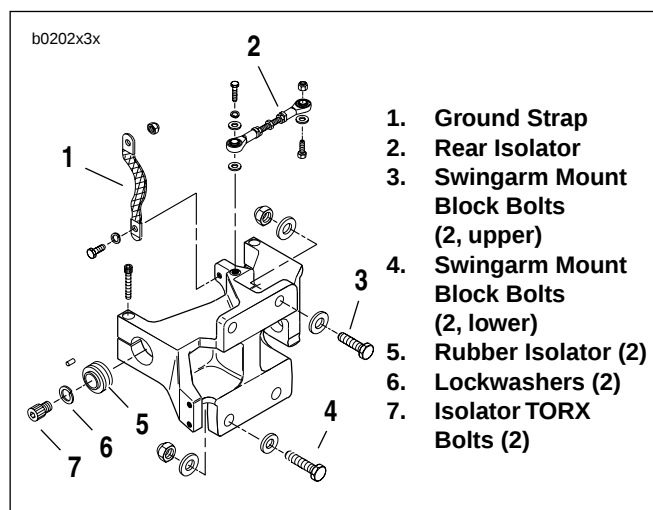
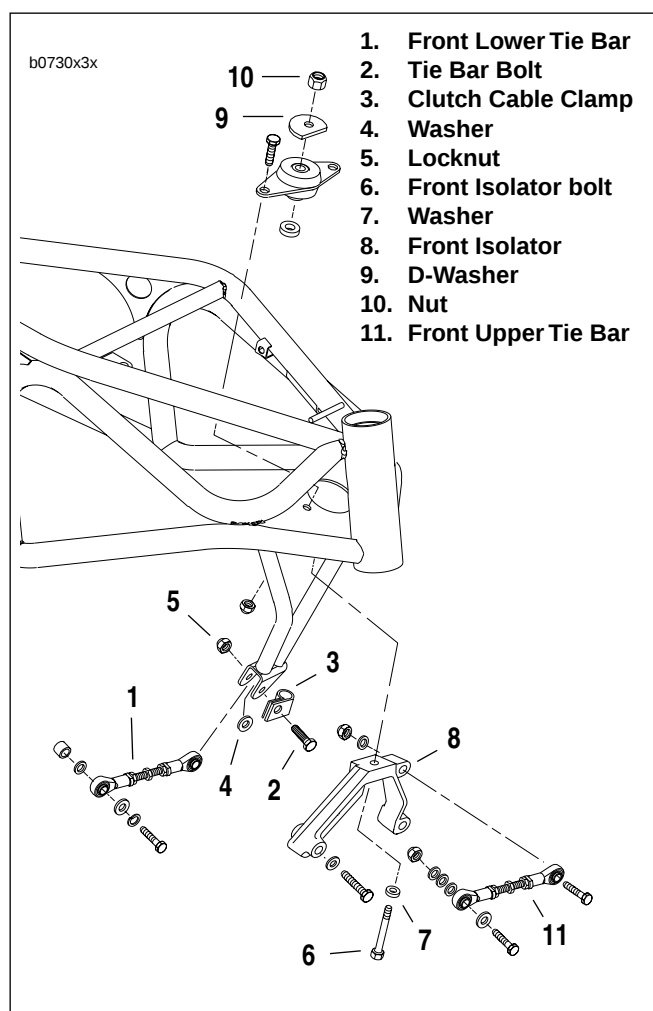

Figure 3-3. Rear Tie Bar Assembly
Figure 3-4. Front Tie Bar Assembly
16. See Figure 3-3. Remove engine ground strap (1) from swingarm mount block.
- b. See Figure 3-4. Detach front tie bar (1) and clutch cable clamp (3). Remove tie bar bolt (2), clutch cable clamp (3), washer (4) and locknut (5).
- c. Remove washer and nut to detach front upper tie bar (11) from isolator (8).
18. Detach front isolator (8). Remove front isolator bolt (6), nut (10), D-washer (9) and washer (7).
19. See Figure 3-3. Remove isolator bolt (7) and lockwasher (6) on each side.
20. Slowly raise floor hoist until rubber isolators (5) can be removed. Frame will rise while engine remains secured to lift by crating strap.
2. See Figure 3-3. If removed, attach swingarm mount block to engine. Install upper bolts (3), washers and lock-nuts finger tight. Install lower bolts (4), washers and lock-nuts finger tight. Tighten upper bolts to 41-45 ft-lbs (56-61 Nm) and lower bolts to 68-75 ft-lbs (92-102 Nm).
6. See Figure 3-4. Attach front isolator (8). Install front isolator mount with bolt (6), washers (7), D-washer (9) and locknut (10). Flat on D-washer faces steering neck (forward). Tighten bolt finger tight.
8. See Figure 3-3. Rear tie bar must be horizontal and below frame tab. Insert bolt upwards through washer, tie bar and frame. Fasten with nut. Tighten bolt to 30-33 ft-lbs (41-45 Nm).
9. See Figure 3-4. Place clutch cable clamp (3) on front tie bar bolt (2). Clamp should hold cable on primary cover side of motor. Insert bolt from front through frame and install washer (4). Continue through tie bar (1) and frame. Install locknut (5) and tighten to 30-33 ft-lbs (41-45 Nm).
10. Attach front upper tie bar (11). Insert bolt through tie bar front isolator, and frame. Secure with nut and washer. Tighten to 30-33 ft-lbs (41-45 Nm).
11. See Figure 3-3. Tighten the two rear isolator TORX bolts to 63-70 ft-lbs (85-95 Nm).
12. See Figure 3-4. Tighten front isolator bolt (6) to 100-110 ft-lbs (136-149 Nm).